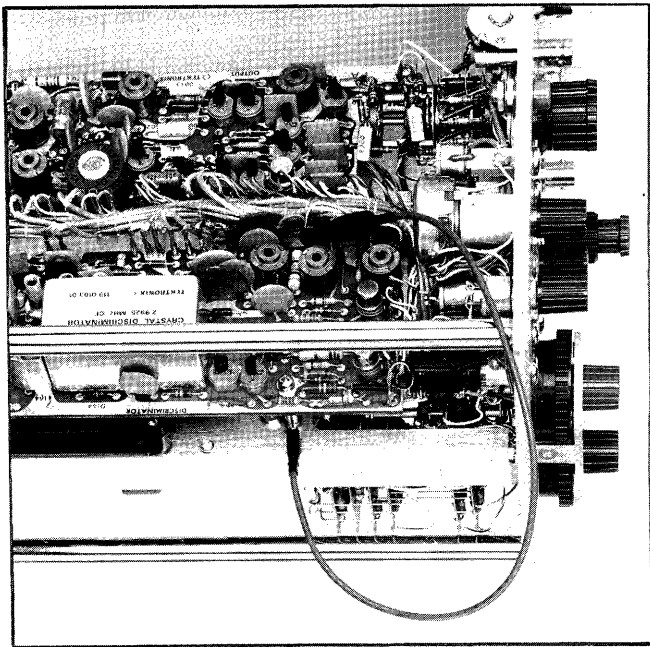

Fig. 6-9. Method of grounding pin J.
b. Apply 10 μ s markers through a 50 Ω termination to the INPUT connector of the Type 1L5. Connect a ground strap between pin J (Fig. 6-9) and chassis ground.